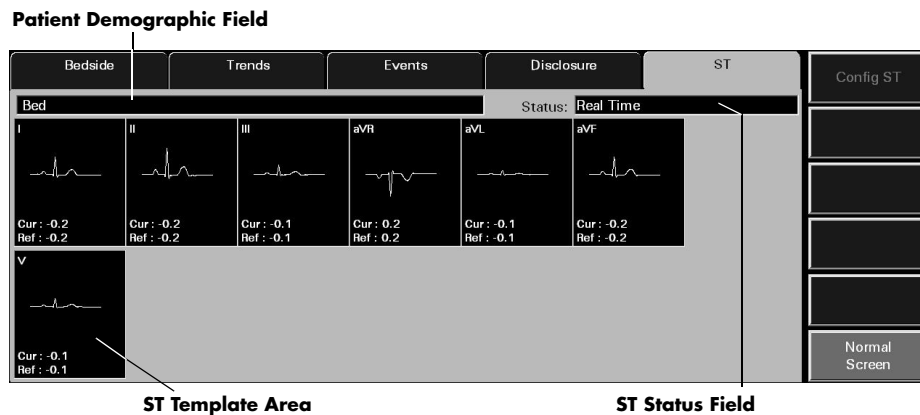
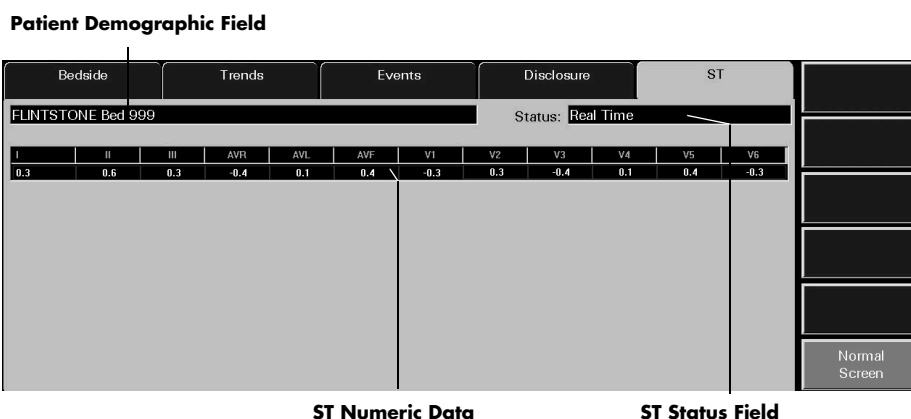

FIGURE 7-25 ST Tab - Hardwired Bedside Monitor (5-wire lead set)
FIGURE 7-26 ST Tab - WMTS 608 Wireless Bedside Device (View 12™ card installed)
When using a WMTS 608 wireless bedside device, only numeric data is displayed (shown in FIGURE 7-26). ST configuration settings must be adjusted at the bedside device.
2. Select the **ST** tab. The **ST** tab (shown in FIGURE 7-25 or FIGURE 7-26) is displayed.